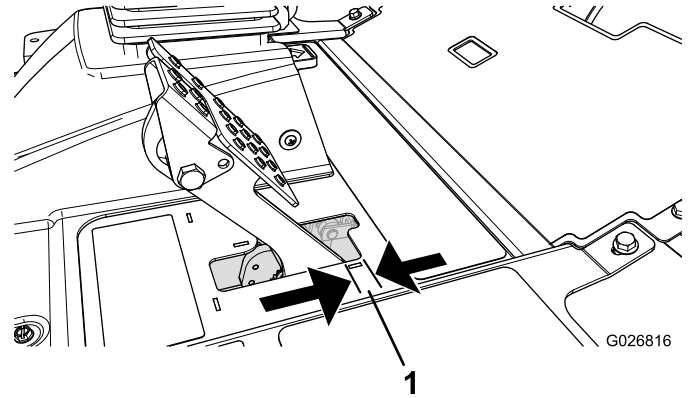

Figure 53
Adjust the brakes when there is more than 2.5 cm (1 inch) of free travel (Figure 53) of the brake pedal, or when more holding force is required. Free travel is the distance the brake pedal moves before you feel braking resistance.
2. Tighten the rear nut to move the cable backward until brake pedals have 6.3 to 12.7 mm (1/4 to 1/2 inch) of free travel (Figure 53), before wheel lock up is achieved.